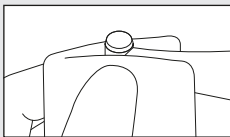
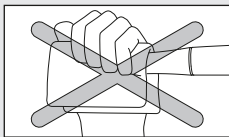

Fig. 18
Fig. 19
- If you wish to purge excessive oil from inside the handpiece, rotate the handpiece for approx 15 seconds without a bur. During the rotation, do not depress the push button, especially when using absorbent cloth to prevent oil from scattering. Depressing the push button during rotation may damage the chuck mechanism (Fig.18, Fig.19).